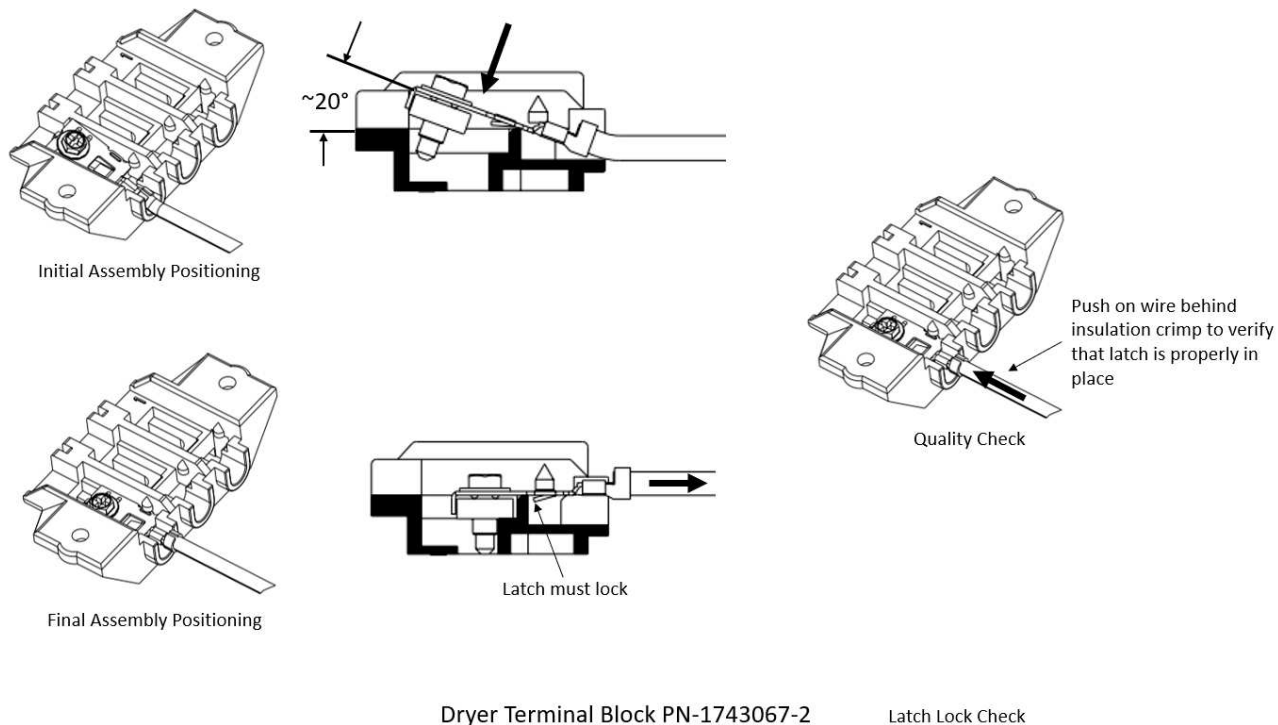

Figure 6
### 3.5. Attaching Appliance and Household Wire (Figures 6, 7, 8 and 9)
The household wire can be attached to the terminal tab as bare wire or with a terminal attached. Any precision formed or custom-made terminal of 3.18 mm [.125 in.] maximum thickness may be used. See Figure 6 for the Ring Tongue Terminal which may be used. Grounding the appliance through the ground wire (center/neutral position) with the ground strap is optional. Figures 6 and 7 provides a composite of the various termination techniques. The assembly procedures for all techniques are covered by the following text.
2. Lay the appliance wire on the center of the terminal cavity then, guiding the terminal under the terminal hold-downs, pull back on the wire until the terminal locking lance passes over the housing locking rib and locks behind the rib. Please refer to Figure 6 and 7.